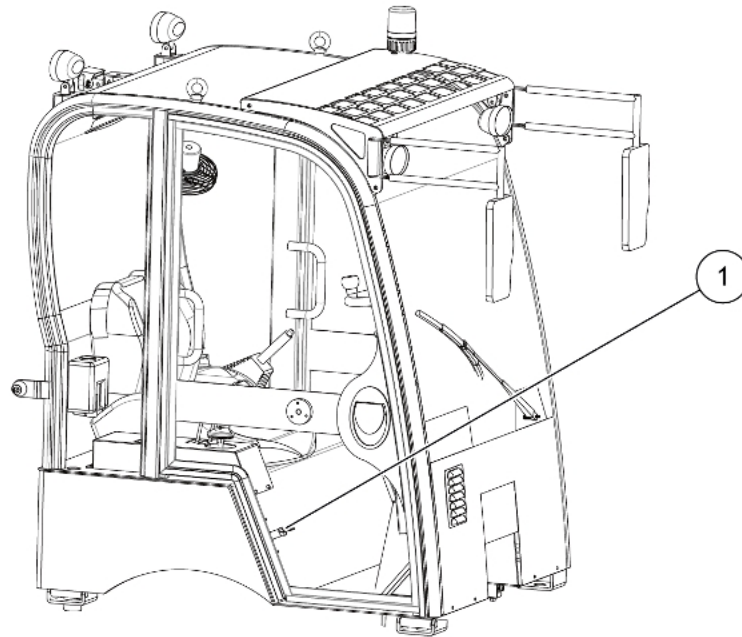

Figure 5-28 Cab
Step 2: Turn on the power switch (2) in the cab, as shown in Figure 5-28;